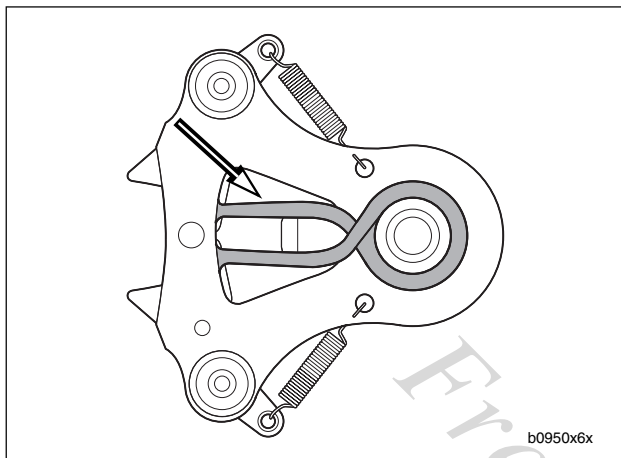

Figure 6-92. Shifter Shaft Return Spring
1. See Figure 6-92. Correctly install shifter return spring onto the reverse side of the shifter shaft assembly before placing shaft in left crankcase half.